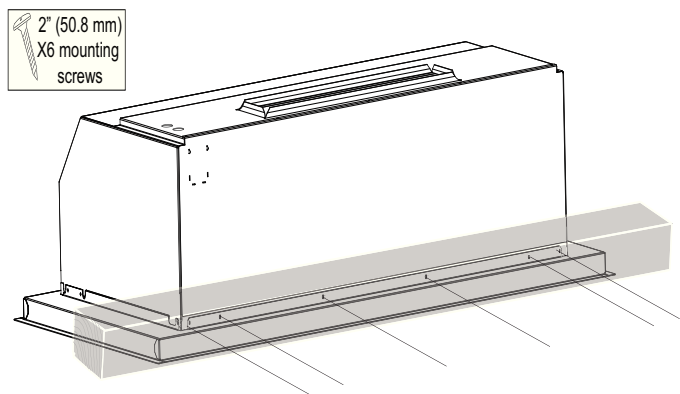

Figure 37: VCIB Rear Screws
- b) Secure to the rear of the frame using six (6) 2" (50.8 mm) mounting screws provided (*Figure 37*).